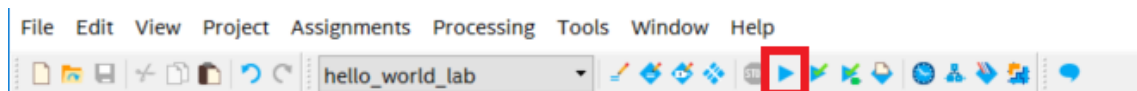

Figure 34: Compilation Button on Quartus Toolbar
- ☐ Click on the play button as shown in Figure 34.